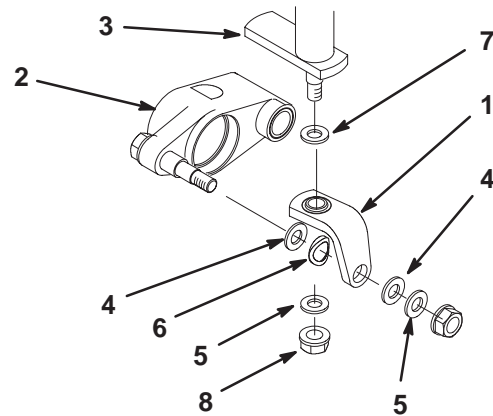
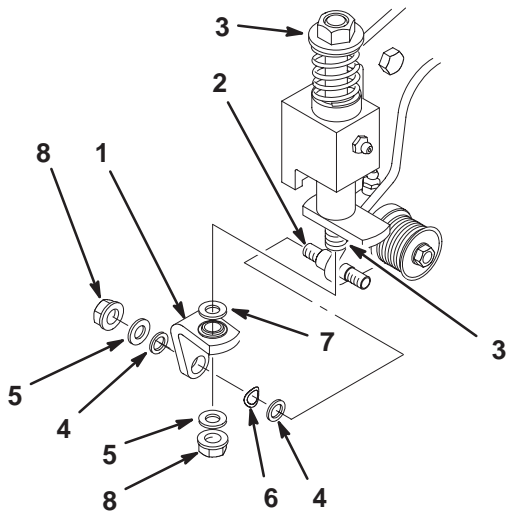

Figure 7
Figure 8
22. Insert a hardened washer onto each adjusting bolt in the front roller bracket assemblies (Fig. 7 and 8).
23. Pivot the groomer reel assembly upward until the pivot brackets slide onto each adjusting bolt (Fig. 7 and 8).
24. Secure each pivot bracket to an adjusting bolt with a flat washer and locknut (Fig. 7 and 8).
- Loosen the locknut on the bearing housing stud (Fig. 7) or the locknut on the pivot plate stud (Fig. 8).